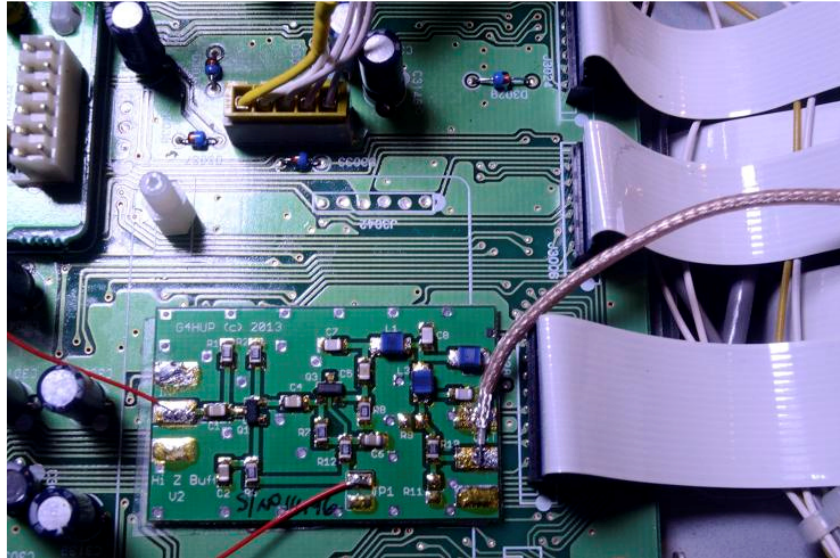

Fig 2 – Location of PAT inside FT1000MP
- 4 The FT1000 has a location for an optional filter PCB on the AF unit. In the example shown an Inrad filter board had been fitted. The ideal place to mount the PAT is under that board - see Fig 2. It does not obstruct anything, and can be positioned to minimise the length of the input wire.
- 7 The output connection from PAT to the rear panel will need approx 200mm of RG178A miniature coax. This can loop neatly round to the output connection. Dimensions for preparing the ends of the cables are given in Table 1 and Fig 9. Do not pigtail the ends of the coax, but make them off as in Fig 2. See also details at the end of this note.